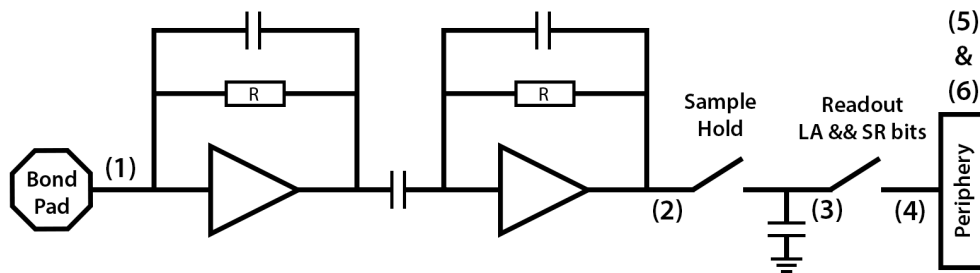

Figure 4:
- The whole analogue chain from an example signal pulse to the output is shown in figure 4 & 5.
- The delay of the minimum in (2) w.r.t. the input signal can be varied by changing the analogue power. Up to 50 ns were tested in simulations.